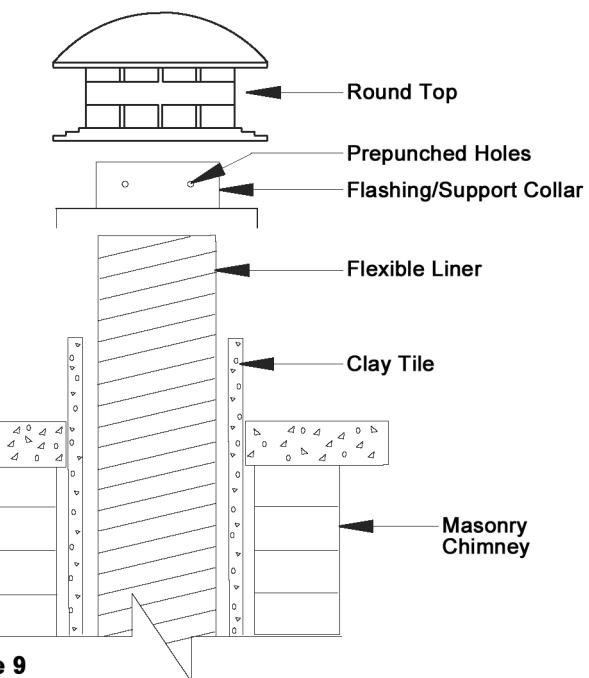

Figure 9
Pull enough of the Flexible Liner through the Flashing/Support assembly to be able to slide the Round Top into the Flexible Liner (see Figures 9 and 10).
Slide the Round Top and Liner back through the Flashing/Support assembly until the skirt of the Round Top comes in contact with the collar of the Flashing/Support assembly. Install the four (4) $\frac{3}{4}$ " sheet metal screws (provided) through the prepunched holes in the Flashing collar (see Figure 9).